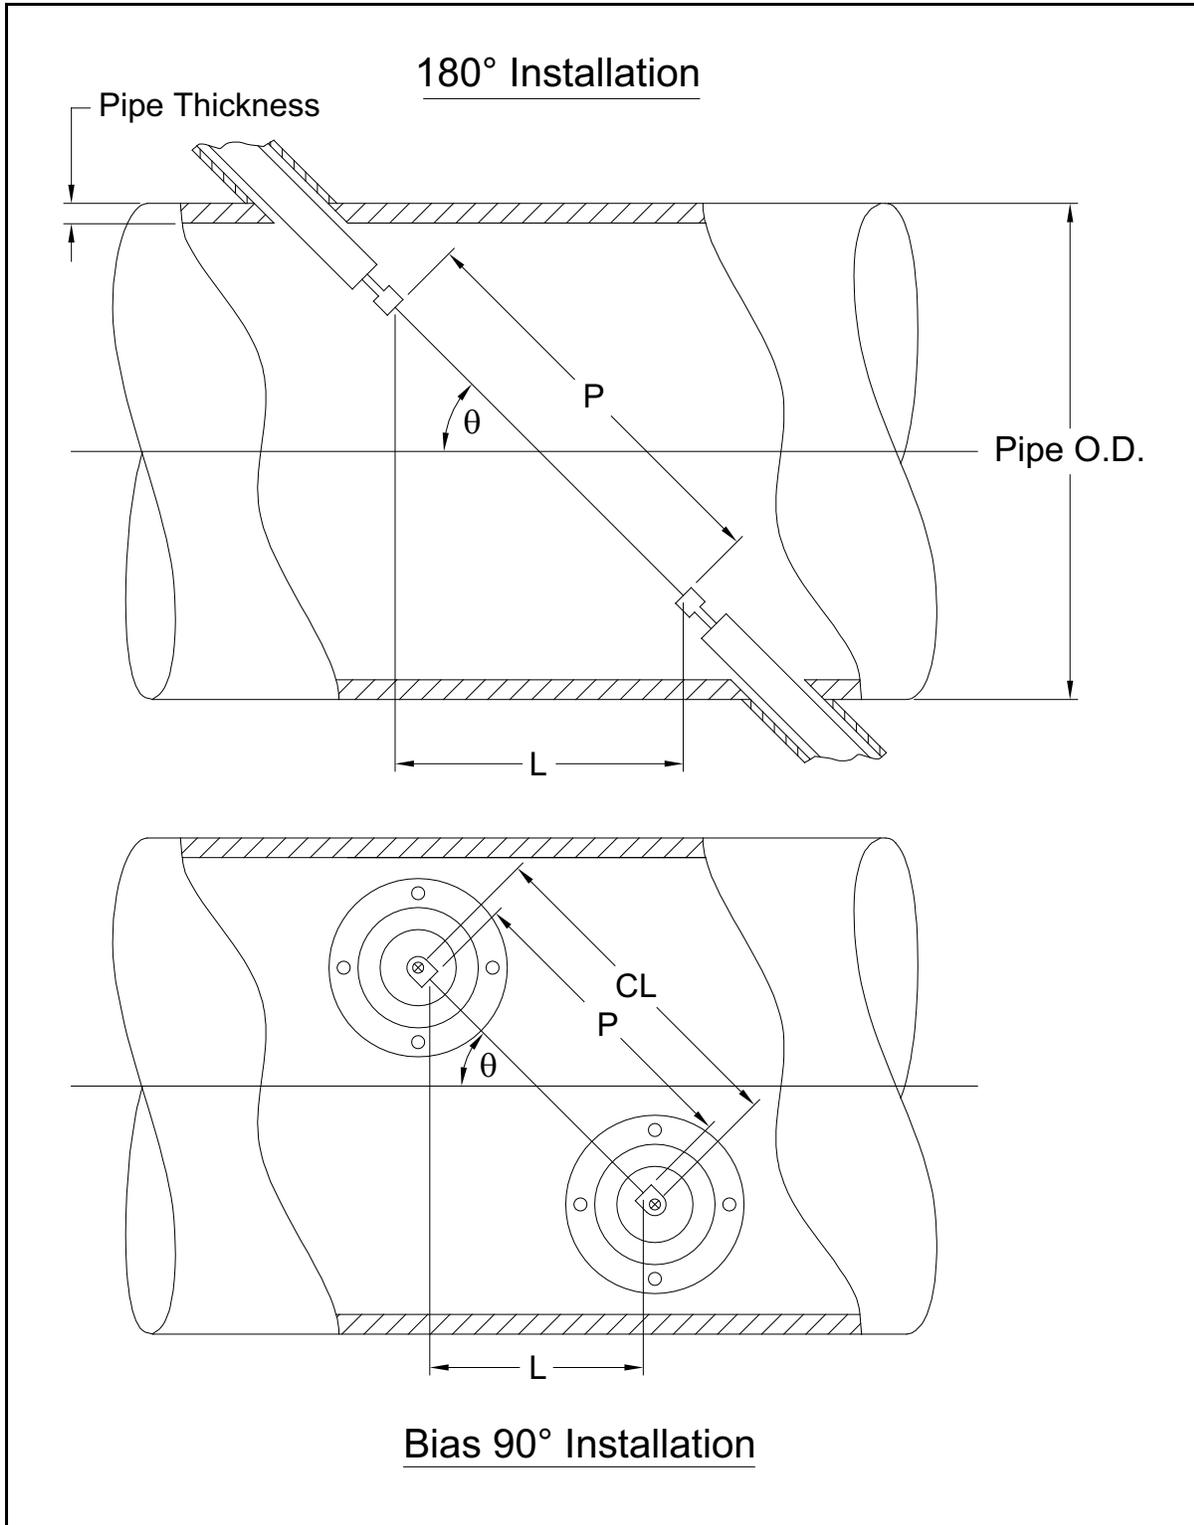

Figure 22: Top View of Typical Transducer Installations
The accuracy of the programmed P and L values is critical to precise flow rate measurements. If GE supplies the flowcell for the system, the correct values will be included in the documentation supplied with the system. For transducers installed on an existing pipe (see *Figure 22 on page 68*), P and L must be measured at the site. This appendix provides instructions for properly determining these dimensions.
Whenever possible, physically measure the face-to-face distance (P) and the axial distance (L) between the centers of the flat faces of the transducers. Refer to *Figure 22 on page 68* for an illustration of the proper distances to measure, in a typical installation.
With a Bias 90° transducer installation, it sometimes happens that the only known parameters are the transducer angle (θ) and the centerline distance between the transducer bodies (CL). In these cases, it is still possible to calculate P and L by combining Equation C-1 above with the additional Equation C-2 below (see *Figure 22 on page 68*):